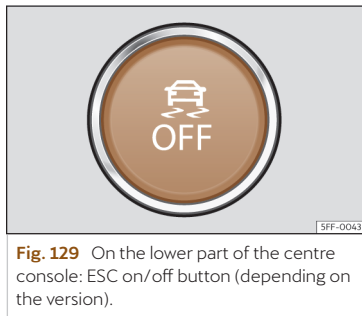

Fig. 129 On the lower part of the centre console: ESC on/off button (depending on the version).
- The TCS can be switched on and off by briefly pressing the  button on the centre console >>> **Fig. 129**.
- In Sport mode, the ESC can be switched off and on by briefly pressing the  button on the centre console >>> **Fig. 129**.
- The ESC can be switched on and off by briefly pressing the  button on the centre console >>> Fig. 129.